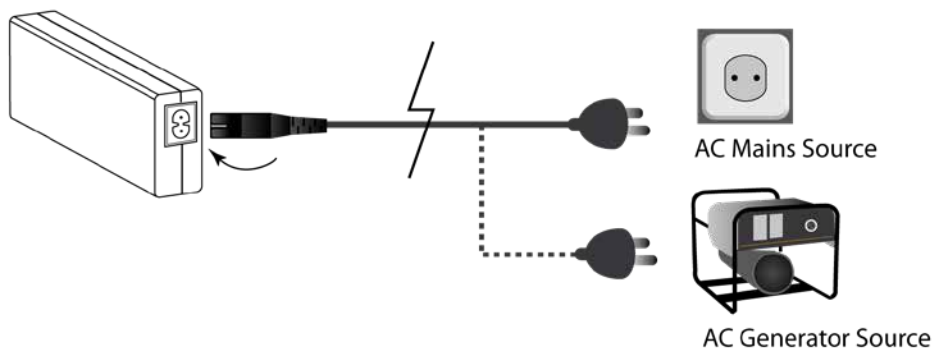

Figure 3 - AC Power Supply Module
2. Connect one end of the supplied AC power lead to the AC socket located on the end of the power supply module (refer Figure 3).